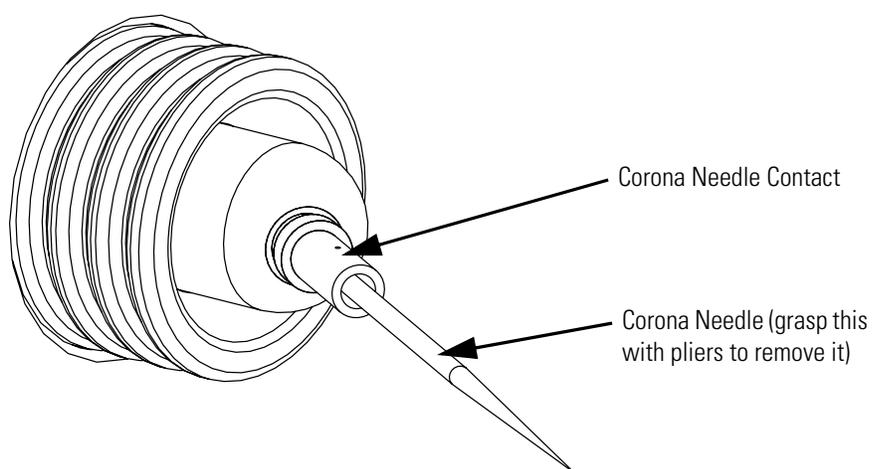

Figure 7. Corona needle, view from rear
- c. Using pliers, grasp the corona needle and pull it straight out of the corona needle contact. See Figure 7.